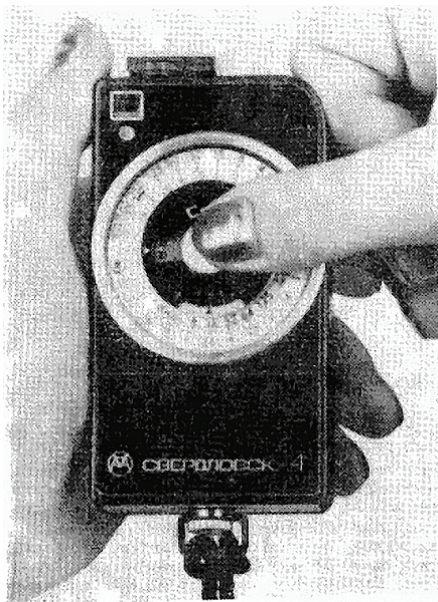

Fig. 2. Setting the exposure compensation
1. Rotate disc **12** (Fig. 1) to set the exposure compensation on scale **7**, as shown in Fig. 2 (for no compensation, set the scale to 0).